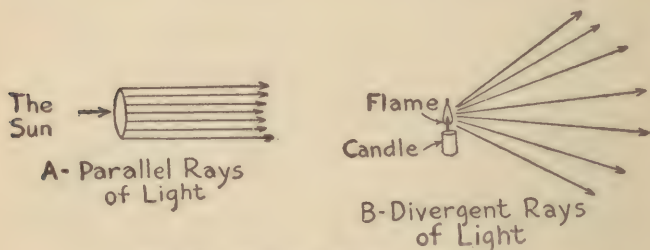

FIG. 5.—KINDS OF RAYS OF LIGHT
light itself. First of all there are two ways in which rays of light may travel through space and these are (1) as *parallel rays*, such as are given off by the sun, and (2) as *divergent rays*, such as are given off by a lamp, or any small and close source of illumination. These different kinds of rays are shown at *A* and *B* in Figure 5.